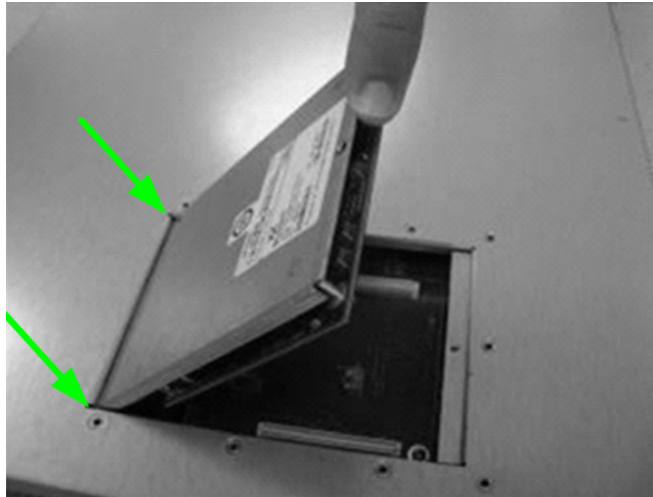

Figure E-2 12200 Management Card Insertion
1. Insert the management card at the angle displayed in Figure E-2 to ensure proper contact with the connectors.